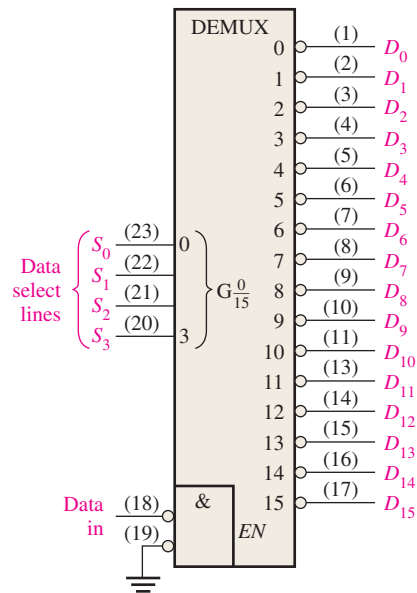

FIGURE 6-54 The decoder used as a demultiplexer.
2. The demultiplexer in Figure 6-54 has a binary code of 1010 on the data-select lines, and the data-input line is LOW. What are the states of the output lines?